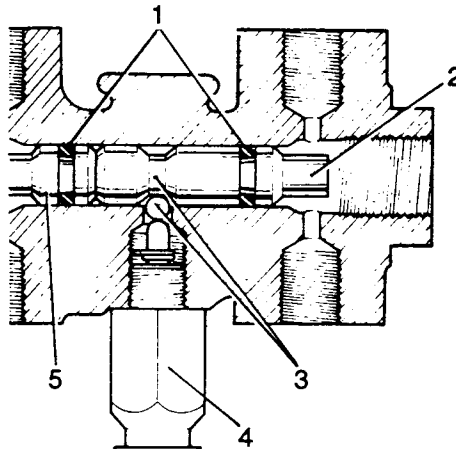

Fig K1.23
- (3) Refer to Fig K1.23. Fit new shuttle valve seals (1).
- (4) Coat the seals with Girling brake lubricant or clean brake fluid.
- (5) Fit the longer shuttle valve (2), slotted end last, to the end plug end of the housing bore.
- (6) Position the shuttle valve to align the groove for the plunger ball with the drilling for the ball (3).
- (7) Fit the ball and switch unit (4). Torque loading 1,728 N.m.
- (8) Fit the shorter shuttle valve (5) slotted end last to the pipe connector end of the housing bore.